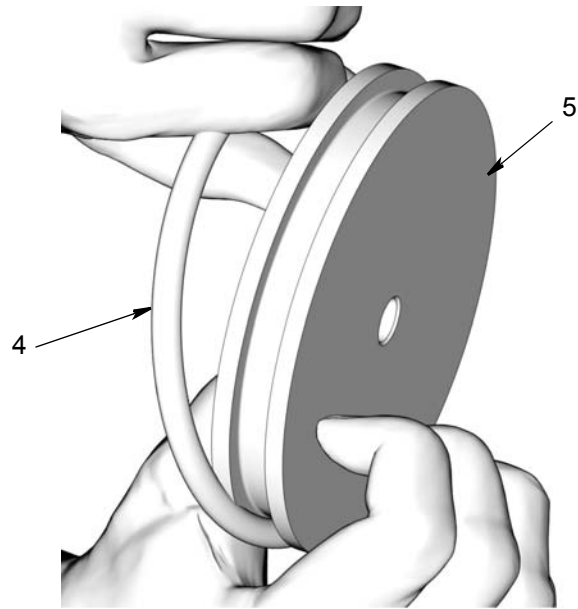

FIG. 24
- Remove o-ring (4) from piston (5) (FIG. 24).